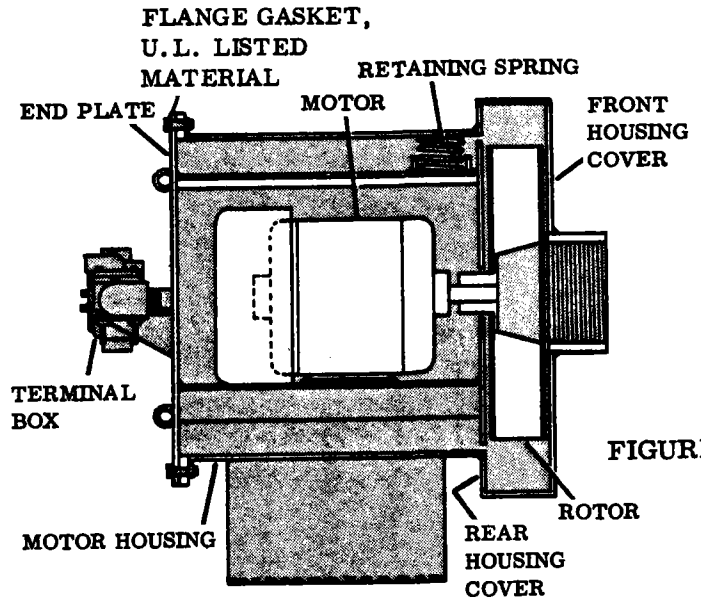

FIGURE 3
- 4.2 The entire internal assembly is easily removed from the booster for inspection and/or maintenance of motor and rotor. (Refer FIGURE 3).